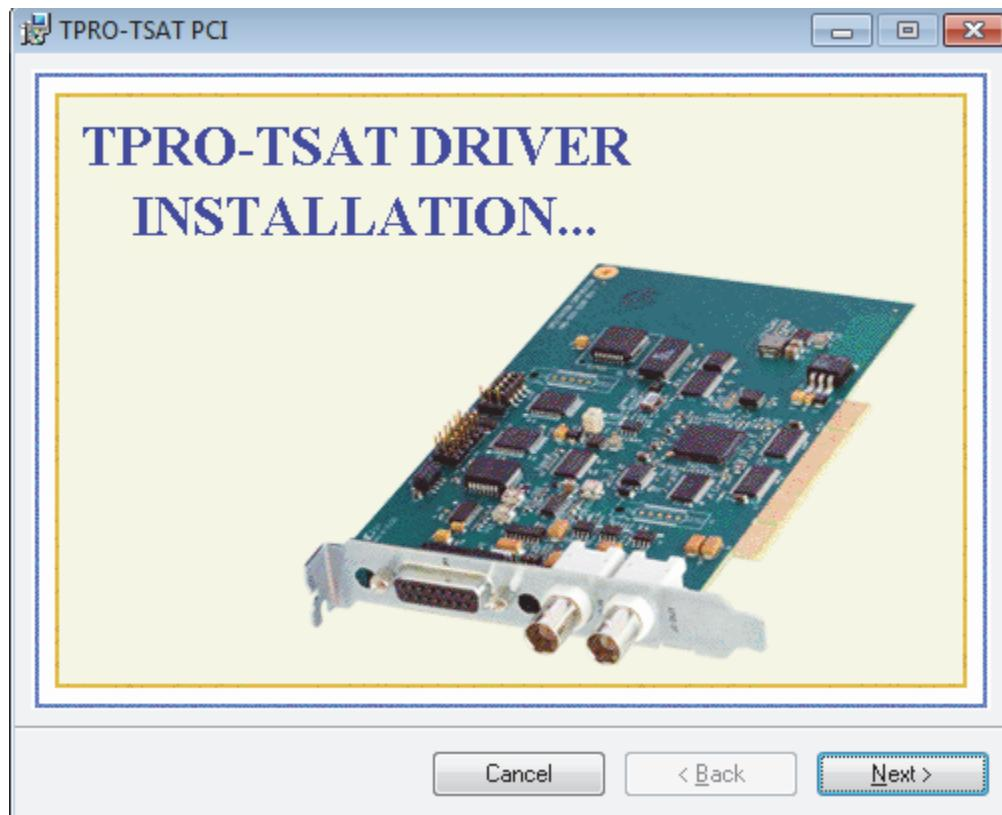

Figure 5-30. TPRO-TSAT DRIVER INSTALLATION Window
3. Select **Next** at the TPRO-TSAT DRIVER INSTALLATION window as shown in Figure 5-30.